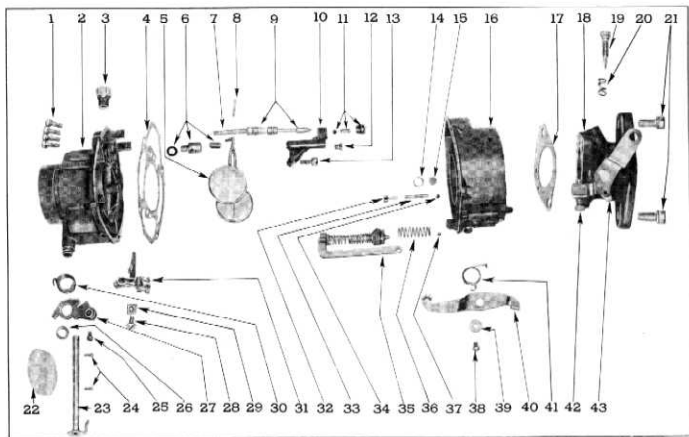

Fig. 99—Carburetor Layout
15. Figure 99 illustrates carburetor completely disassembled.